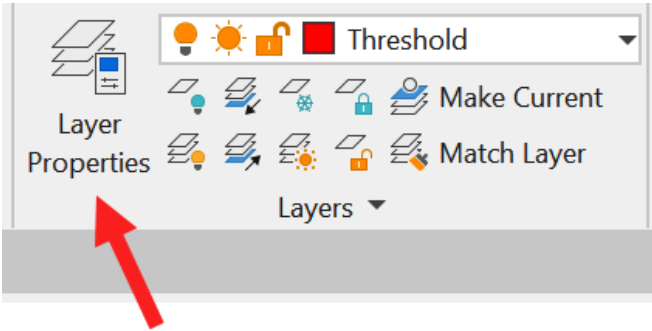

Figure 15.30: The Layer Properties icon
2. Click on the **Home** tab on the ribbon and look at the **Layers** ribbon panel. Click on the **Layer Properties** icon, as shown in *Figure 15.30*.